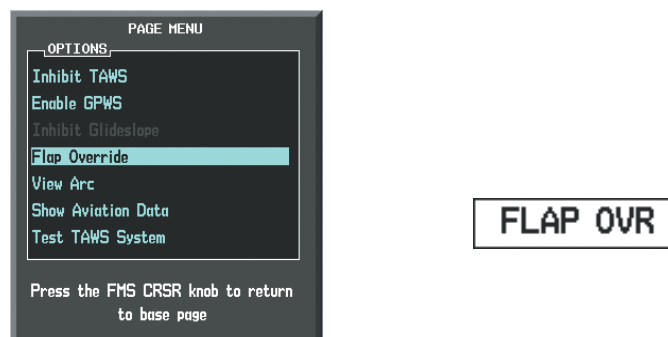

Figure 6-140 TAWS-A Page Menu and FIT Flap Override Annunciation
- 1) Press the **MENU** Key. (Figure 6-140)
When the Flaps Override option is enabled, the annunciation 'FLAP OVR' is annunciated on the PFD and on the TAWS-A Page of the MFD (Figure 6-140). If GPWS alerts are also inhibited (which include FIT), the 'FLAP OVR' annunciation is not shown.